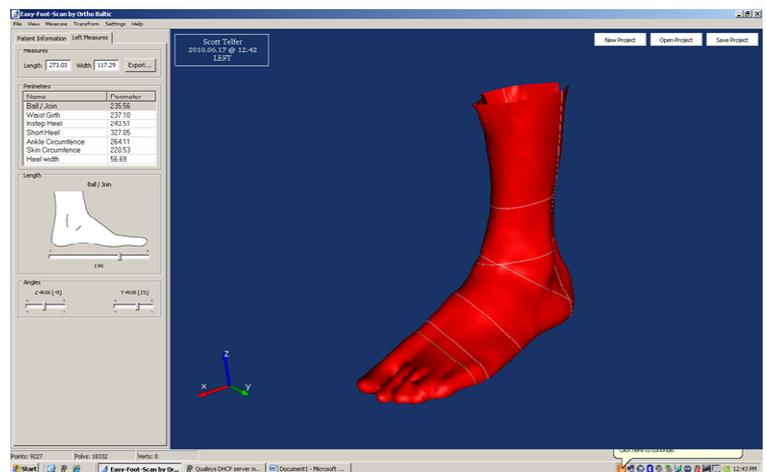
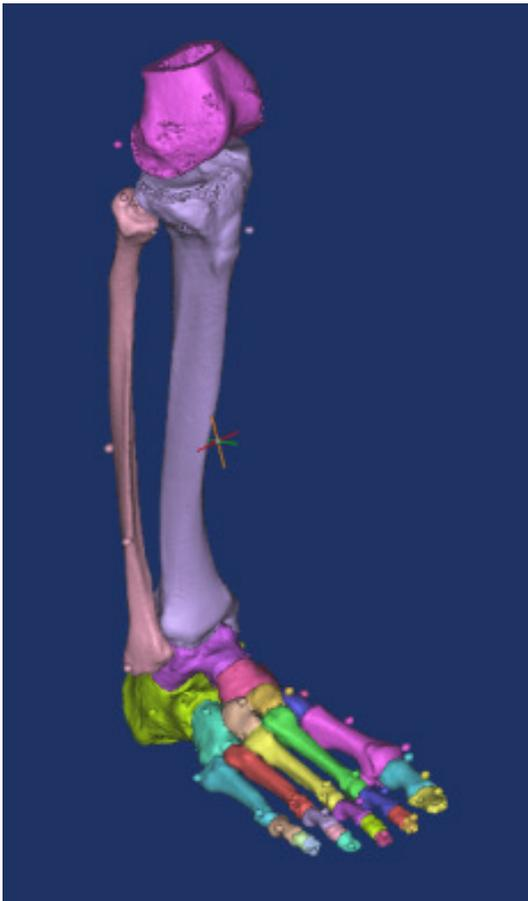

Fig 1. 3D Surface scan of the foot and lower leg
Fig 3. 3D leg and foot reconstruction from CT scans
tomography (CT) imaging and three-dimensional (3D) gait analysis. The first step involves capturing the overall external and internal shape of the leg and foot as well as the detailed anatomy of the most important muscles and ligaments. The external foot/leg shape is pictured using a 3D laser scanning device, developed by **Baltic Orthoservice (BOS)**, one of the SME partners in the *A-FOOTPRINT* project (Figure 1). The 3D shape of the bones of the foot and leg are reconstructed from images derived from CT scans using Mimics 14 (by **Materialise (MAT)**) (Figure 3). The foot is a highly complex structure with multiple small bones, muscles and ligaments. Capturing the detailed movement and muscle action across multiple small joints during walking poses technical challenges to gait researchers. In the *A-FOOTPRINT* project, both **GCU** and **MAS** are providing this data by using clusters of cameras to track foot movement and sensors to simultaneously record muscle function. At the same time, the distribution of stresses on the plantar (sole) region of the foot is captured using a specialised pressure measurement system developed by **RScan INTERNATIONAL (RSS)**.